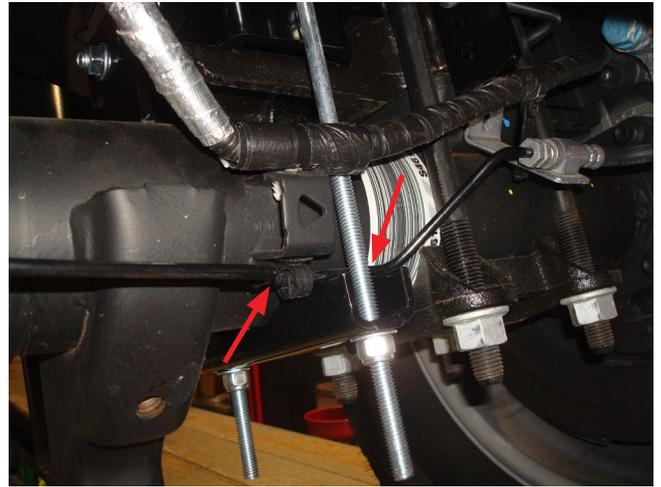

Fig. 40
On the driver's (left) side, the long carriage bolt in the lower bracket will be between the hard brake line and axle (Fig. 48). On the passenger's (right) side, the carriage bolt will be on the back side of the brake line (Fig. 40).
12. Once the lower brackets are secured, ensure the brake line is not rubbing against the lower bracket carriage bolt on the right (passenger's) side. Pull or push the hard brake line away to gain clearance (if necessary). See Figure 40.